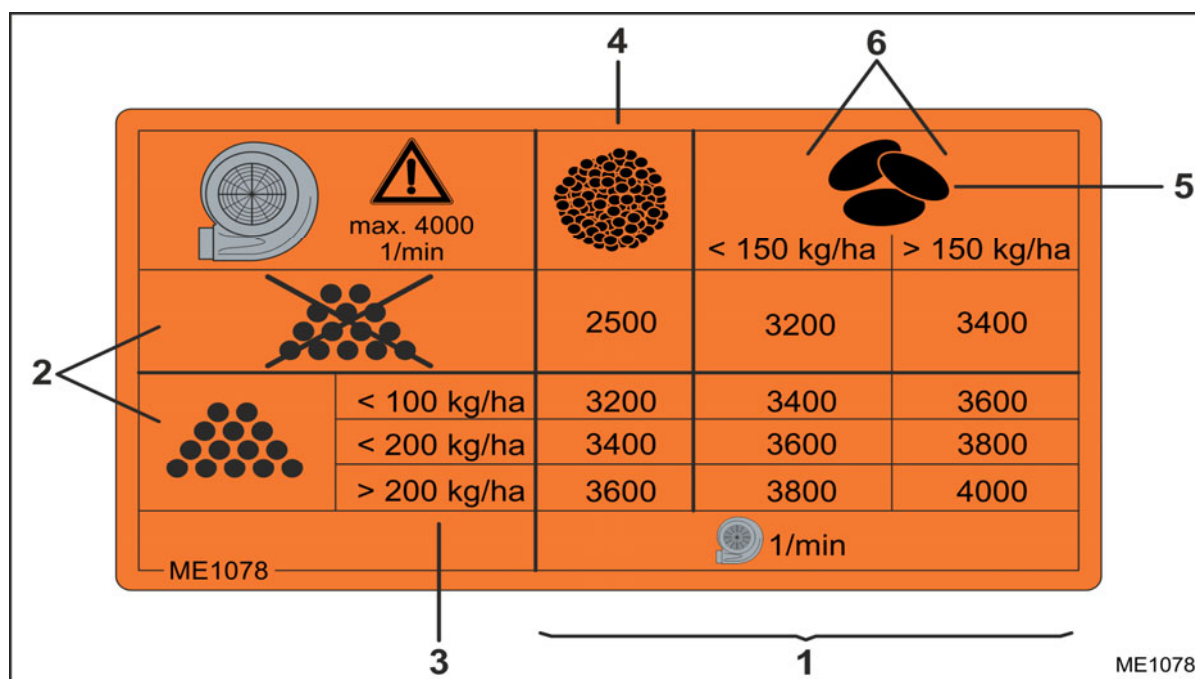

Fig. 160
The fan speed (Fig. 160/1) required depends on:
- with or without fertiliser (Fig. 160/2)
- from the fertiliser application rate (Fig. 160/3)
- fine seed types (Fig. 160/4), e.g. rapeseed or grass seed
- grains or legumes (Fig. 160/5) and the spread rate (Fig. 160/6).
- fertiliser application rate: 150 kg/ha (Fig. 160/3)
- grain spread rate: 130 kg/ha (Fig. 160/6)